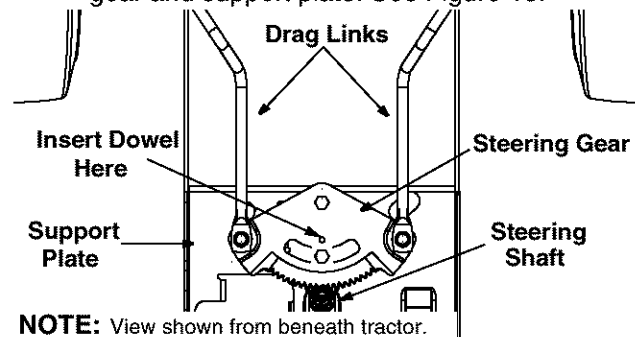

Figure 13
- Place the steering wheel in position for straight ahead travel. Insert a 1/4" dowel up through aligning holes in both the steering gear and support plate. See Figure 13.